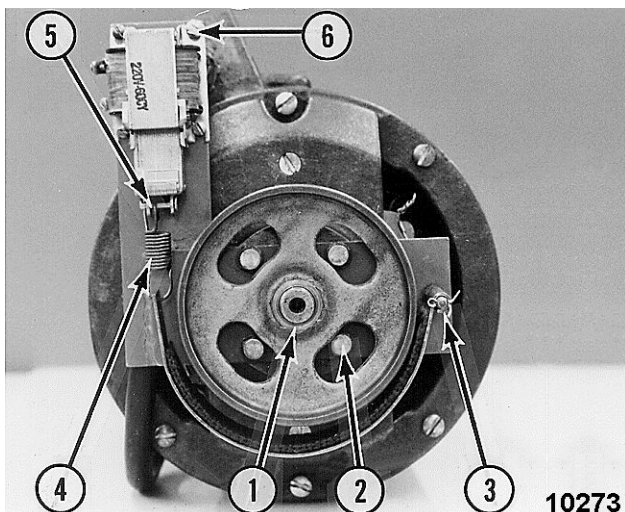

Fig. 116
1. Extract the cotter pin from the brake band stud on the pivot end of the brake band and remove the washer [3] Fig. 116.
2. Slide the brake band off the brake band stud and unhook the brake spring [4] Fig. 116.
1. Extract the cotter pin from the solenoid clevis pin [5] Fig. 116 and remove the pin and brake spring.
2. Remove the four mounting screws on the solenoid and remove the solenoid [6] Fig. 116.